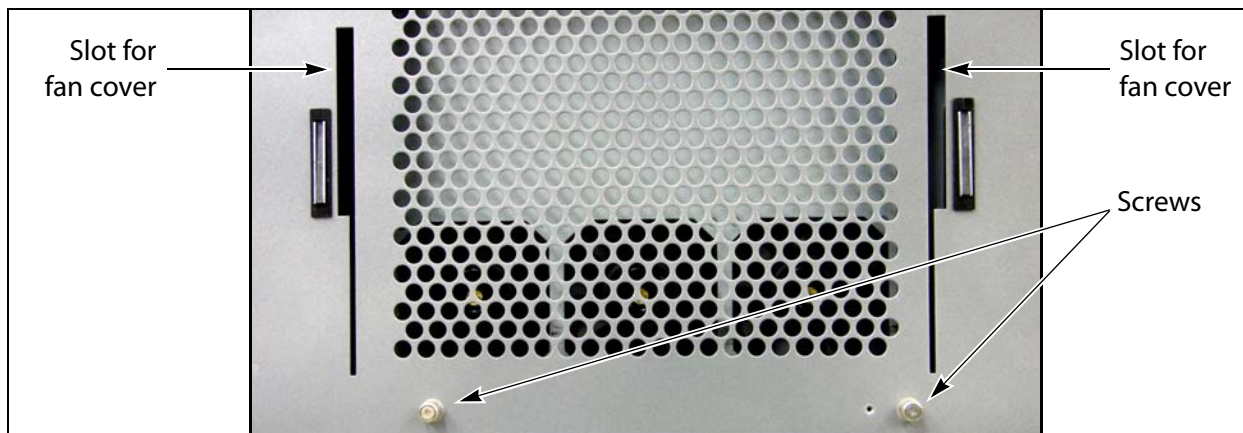
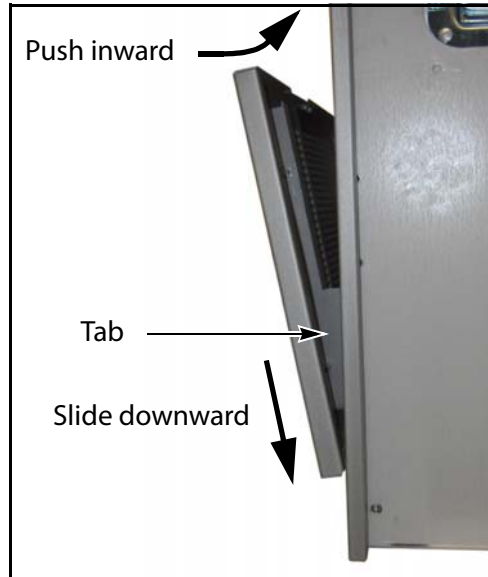

Figure 4 Install the front cover screws.
Figure 5 Install the fan cover.
2. Using your fingers or a #2 Phillips screwdriver, tighten the two knurled screws on the bottom of the library front cover, securing it to the chassis (Figure 4).
3. Insert the tabs on the back of the fan cover into the slots in the front cover (Figure 4), then slide the cover downward, as shown in Figure 5. Push the upper edge of the cover toward the front panel until the magnets secure it to the front panel.